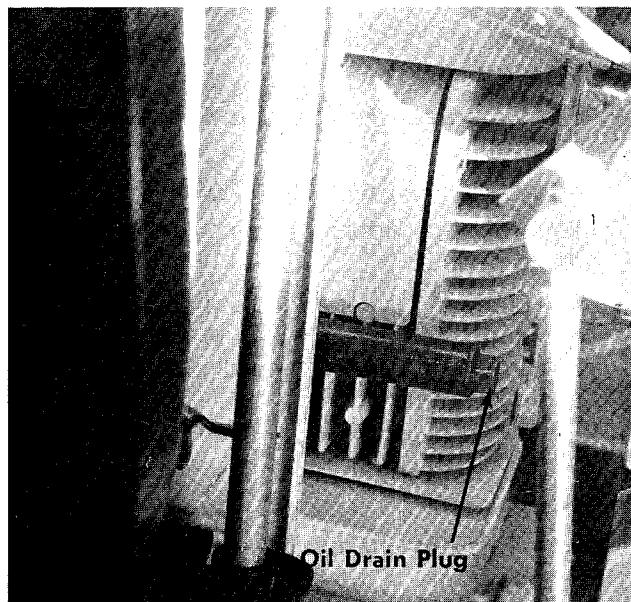

FIGURE 17. OIL DRAIN
Step 1. With the machine on level ground, place a suitable metal container under the oil drain plug located on the front of the engine. See figure 17.